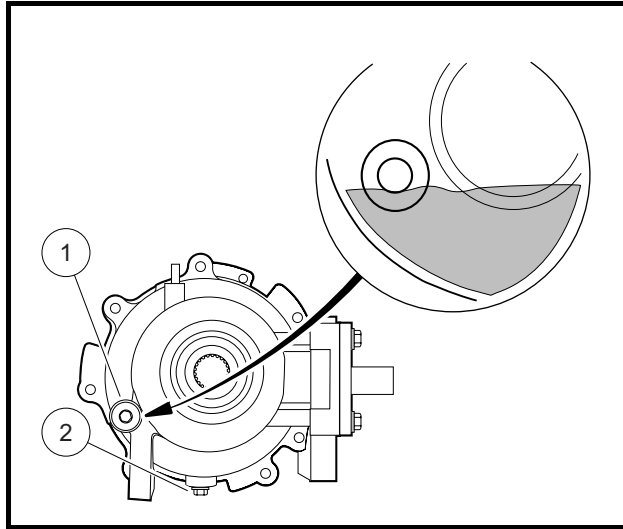
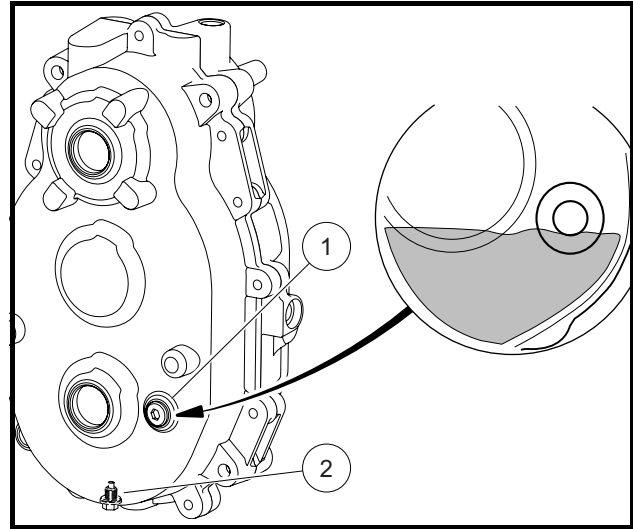
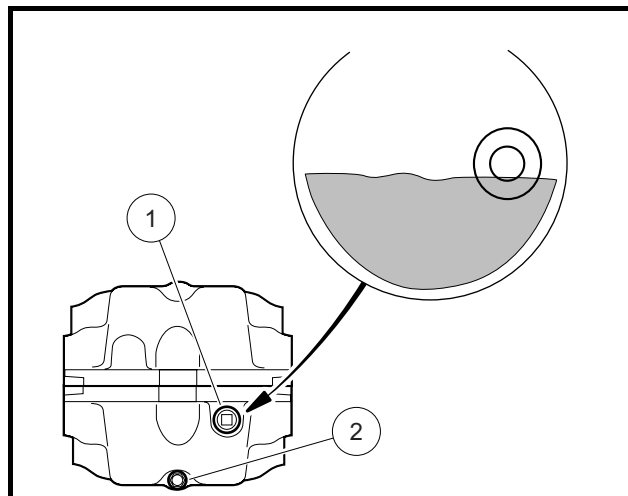

Figure 29 Front Differential Lubrication Level
Figure 30 Transmission Lubrication Level
Figure 31 Rear Differential Lubrication Level
Each gearcase component is equipped with two oil port plugs (1 and 2) (**Figure 29**, **Figure 30**, and **Figure 31**). When the vehicle is on a level surface, use the level indicator hole (upper plug) (1) as a lubricant level indicator. Lubricant level should be even with the bottom of level indicator hole (1).
Use the lower plug (2) for drainage (**Figure 29**, **Figure 30**, or **Figure 31**). Remove both plugs to allow the lubricant to drain faster. See preceding **NOTE**. Use the lower plug (2) for drainage (**Figure 29**, **Figure 30**, and **Figure 31**). Remove both plugs to allow the lubricant to drain faster. See preceding **NOTE**.
Clean and install the drain plug (2) and washer before filling the front differential with new lubricant (**Figure 29**). Tighten the drain plug to 9 ft-lb (12 N-m). Use a funnel when filling the front differential through the lubricant level indicator hole (1). **See Periodic Lubrication Schedule on page 33.** Tighten the level indicator plug to 10 ft-lb (14 N-m).
Clean and install the drain plug (2) before filling the transmission with new lubricant (**Figure 30**). Tighten the drain plug to 8 ft-lb (11 N-m). Remove the fill plug from the top of the transmission case and use a funnel to fill the transmission with lubricant. **See Periodic Lubrication Schedule on page 33.** Apply Loctite 567 to the threads of the fill plug and tighten to 21 ft-lb (28 N-m).
Clean and install the drain plug (2) and washer before filling the rear differential with new lubricant (**Figure 31**). Tighten the drain plug to 8 ft-lb (10.8 N-m). Use a funnel to fill the differential through the lubricant level indicator hole (1). **See Periodic Lubrication Schedule on page 33.** Apply Loctite 567 to the threads of the level indicator plug and tighten to 21 ft-lb (28 N-m).